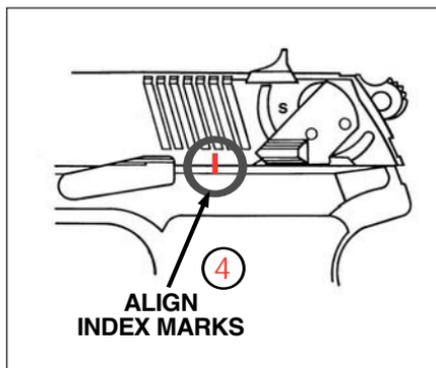
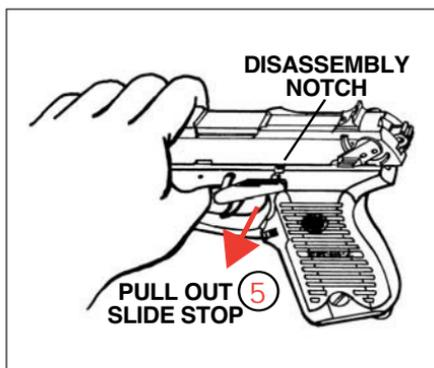

FIGURE 5
FIGURE 6
4. Remove fingers from ejection port. Grasp slide tightly. Now press down on slide stop and allow slide to move slowly forward until the vertical disassembly line on the frame is aligned with the vertical disassembly line on the slide (See Figure 5, above). Press in on right-hand end of slide stop and pull slide stop out of frame to the left until it is withdrawn completely out of the frame. (See Figure 6, above).